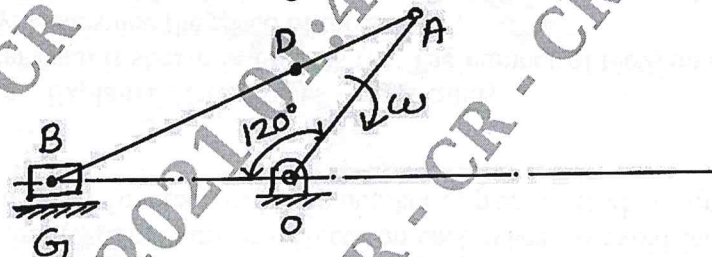

Fig. Q3
- 3 Fig. Q3 shows configuration diagram of an engine mechanism. The dimensions are the following : Crank OA = 200 mm, Connecting rod AB = 600 mm; Distance of centre of mass from Crank end AD = 200 mm. At the instant, the crank has an angular velocity of 50 rad/s clockwise and an angular acceleration of 800 rad/s². Calculate the